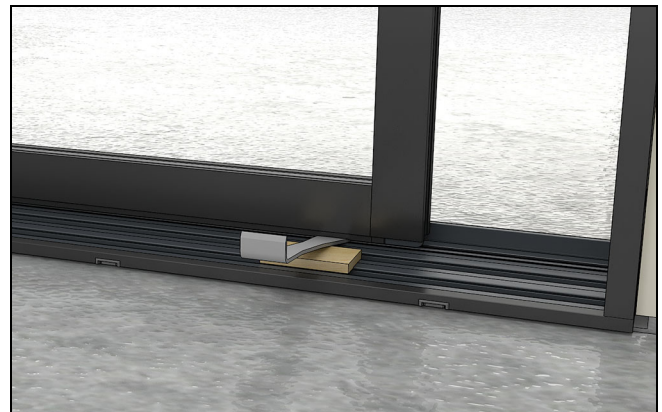

Figure 89
2. Place a block of wood on the sill and pry the panel up to relieve the weight off the rollers. See Figure 89.